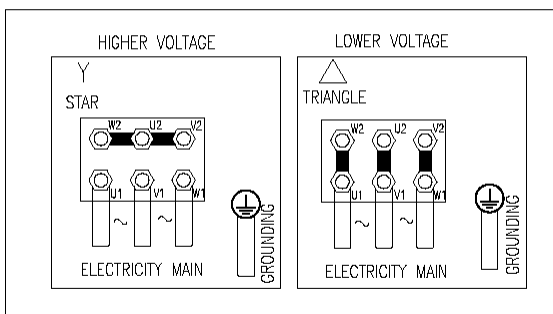

Fig.3 The flanged vibration motor wiring diagram
1、 You can find the wiring diagram in Figure 3 on the nameplate of our vertical vibration motor or on the back of the junction box cover plate, and connect the cables according to the wiring diagram.